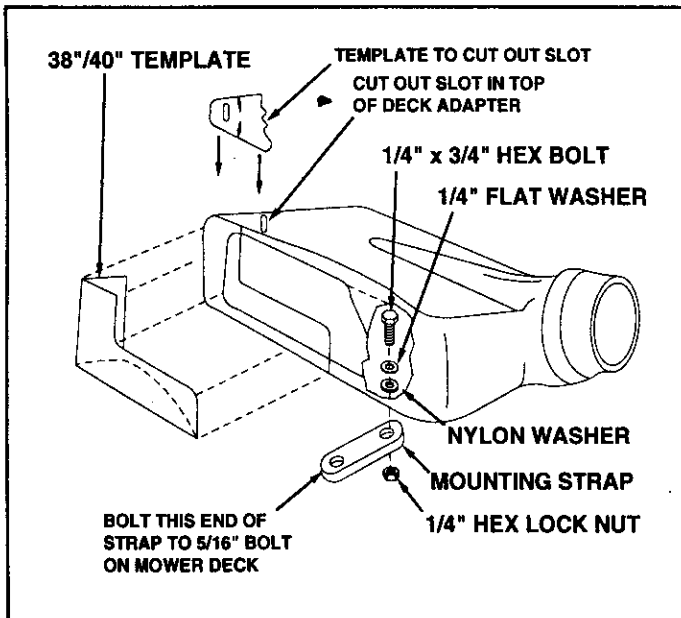

FIGURE 34
- Cut out two templates and place on deck adapter as shown in figure 34. Tape smaller one on top and larger one on the side and bottom. After they are in place, carefully mark around the templates, then cut out adapter to obtain correct opening.
- Bolt end of mounting strap to the 5/16" bolt on the mower deck. The other end of the strap will bolt to a hole in the deck adapter, which must be drilled. Position the adapter on the deck, then drill a 5/16" hole in the bottom of the adapter that will align with the hole in the strap. Fasten the adapter to the strap using one 1/4" x 3/4" hex bolt, 1/4" flat washer, nylon washer and 1/4" hex lock nut. See figure 34.